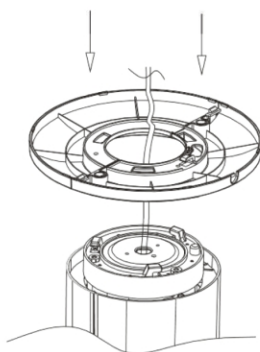

Fig 2
- Position the base on the bottom of the fan, put the power cord through the base and make sure clasps on tower fan body is aligned with the holes on the base. See Figure 2